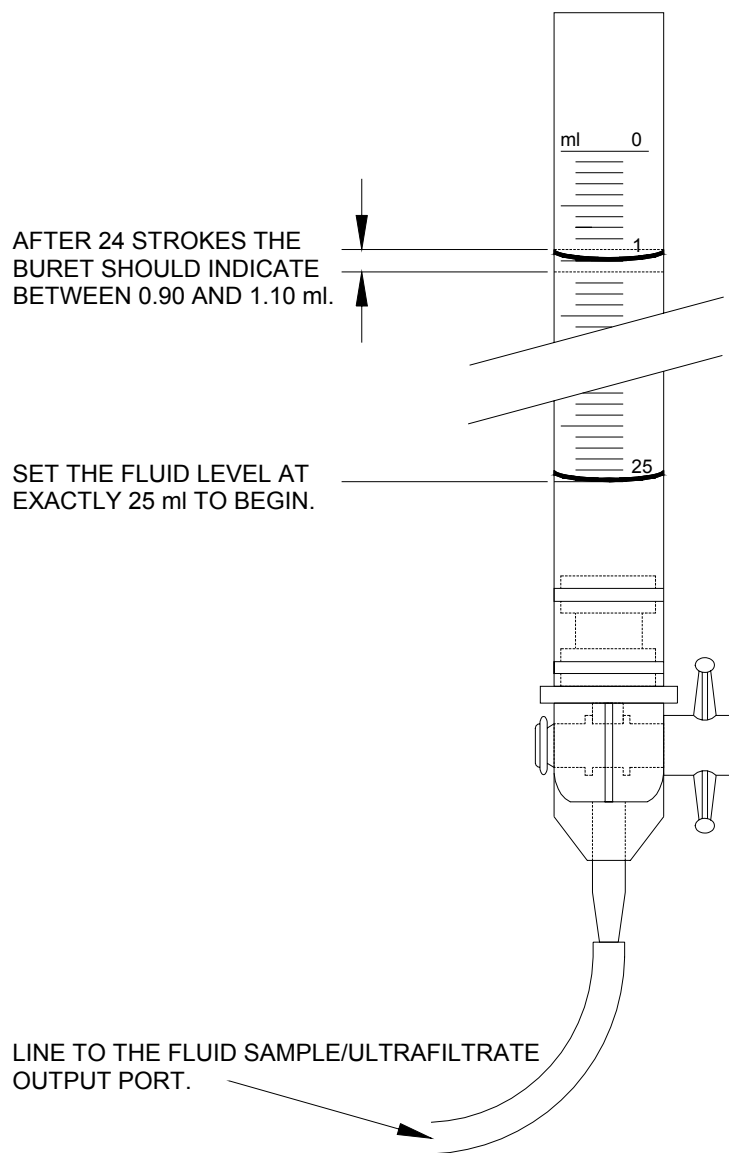

Figure 4 - UF Pump Volume Measurement
Add or remove fluid from the buret so the meniscus is exactly on the 25ml mark (see Figure 4).
8. When the **Target** value reaches zero, the UF pump will stop. Measure the fluid collected in the buret. The buret scale should indicate between 0.90 and 1.10ml, indicating that between 23.90 and 24.10ml of fluid was collected (see Figure 4). If the volume collected is not within this range, adjust the UF pump volume as follows: